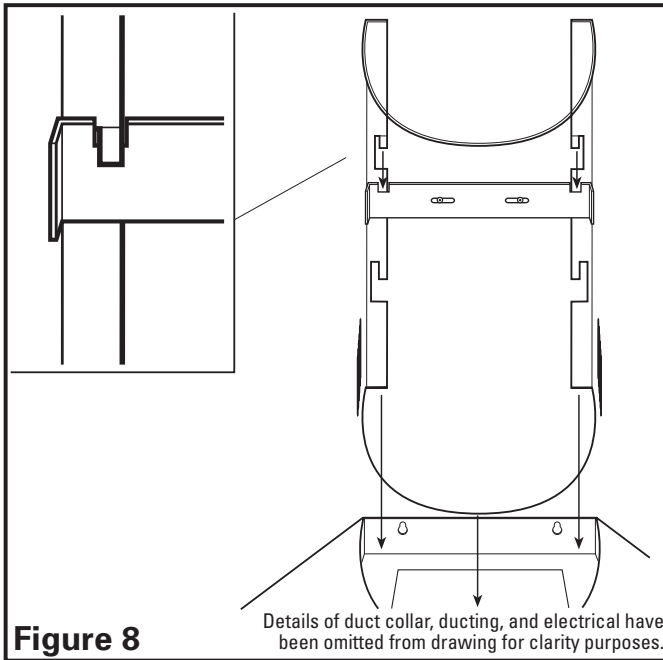

Figure 8
3. Slide chimney in place so top tabs of the chimney are secured in place on the indents of the vertical chimney bracket and the base of the chimney fits into the hood (**Figure 8**).